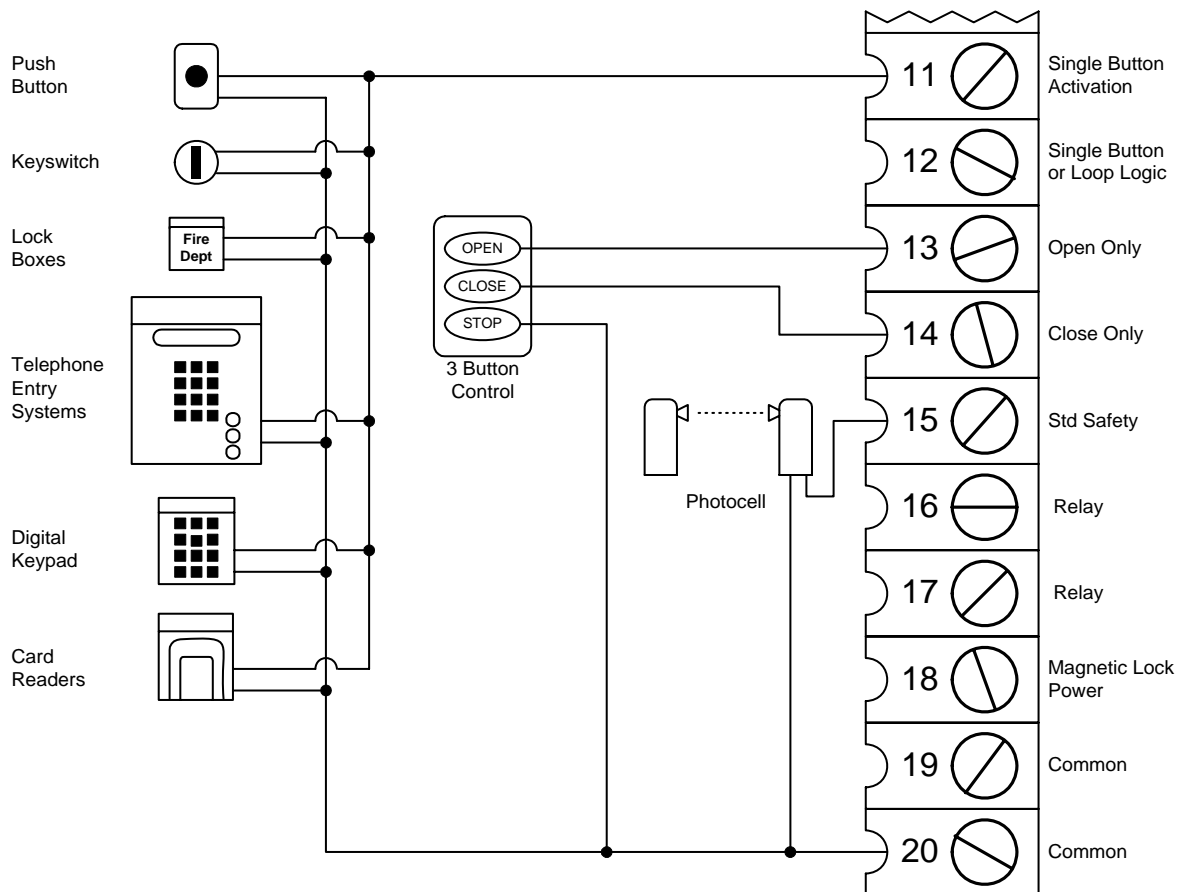

Figure 25
- Connect optional control devices to the master operator terminal strip as shown in Figure 25. Be sure that all electrical connections are made in accordance with local electrical codes. Use 18 AWG wire for all low voltage wiring, maximum distance 3000 feet. Use a low voltage surge suppresser, DoorKing P/N 1878-010 if low voltage wire runs exceed 1000 feet. All inputs to the terminal strip must be NORMALLY OPEN.